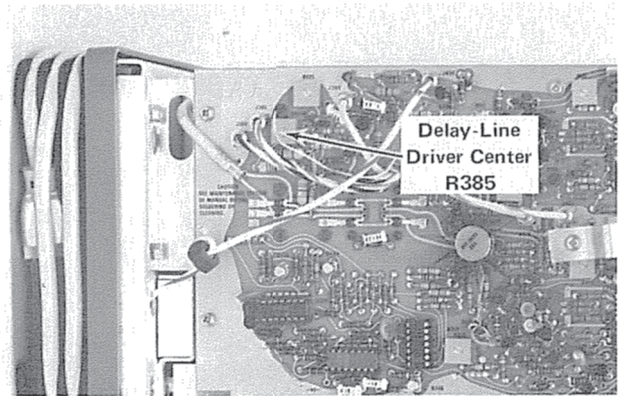

Fig. 5-7. Location of Delay-Line Driver Centering adjustment.
- c. ADJUST—Delay-Line Driver Centering adjustment, R385 (see Fig. 5-7), for a reading of 0 volts at both ends of the delay line.
h Fig. 5-7. Location of Delay-Line Driver Centering adjustment.